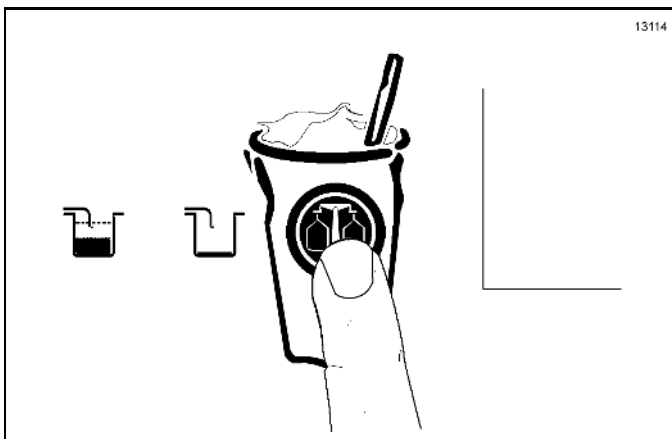

Figure 2-145
1. Press the Calibration key  to display the menu options. The Calibration key , the Auto key  on the shake side, and the Flavor Selection key  will be illuminated. (See Figure 2-145.)